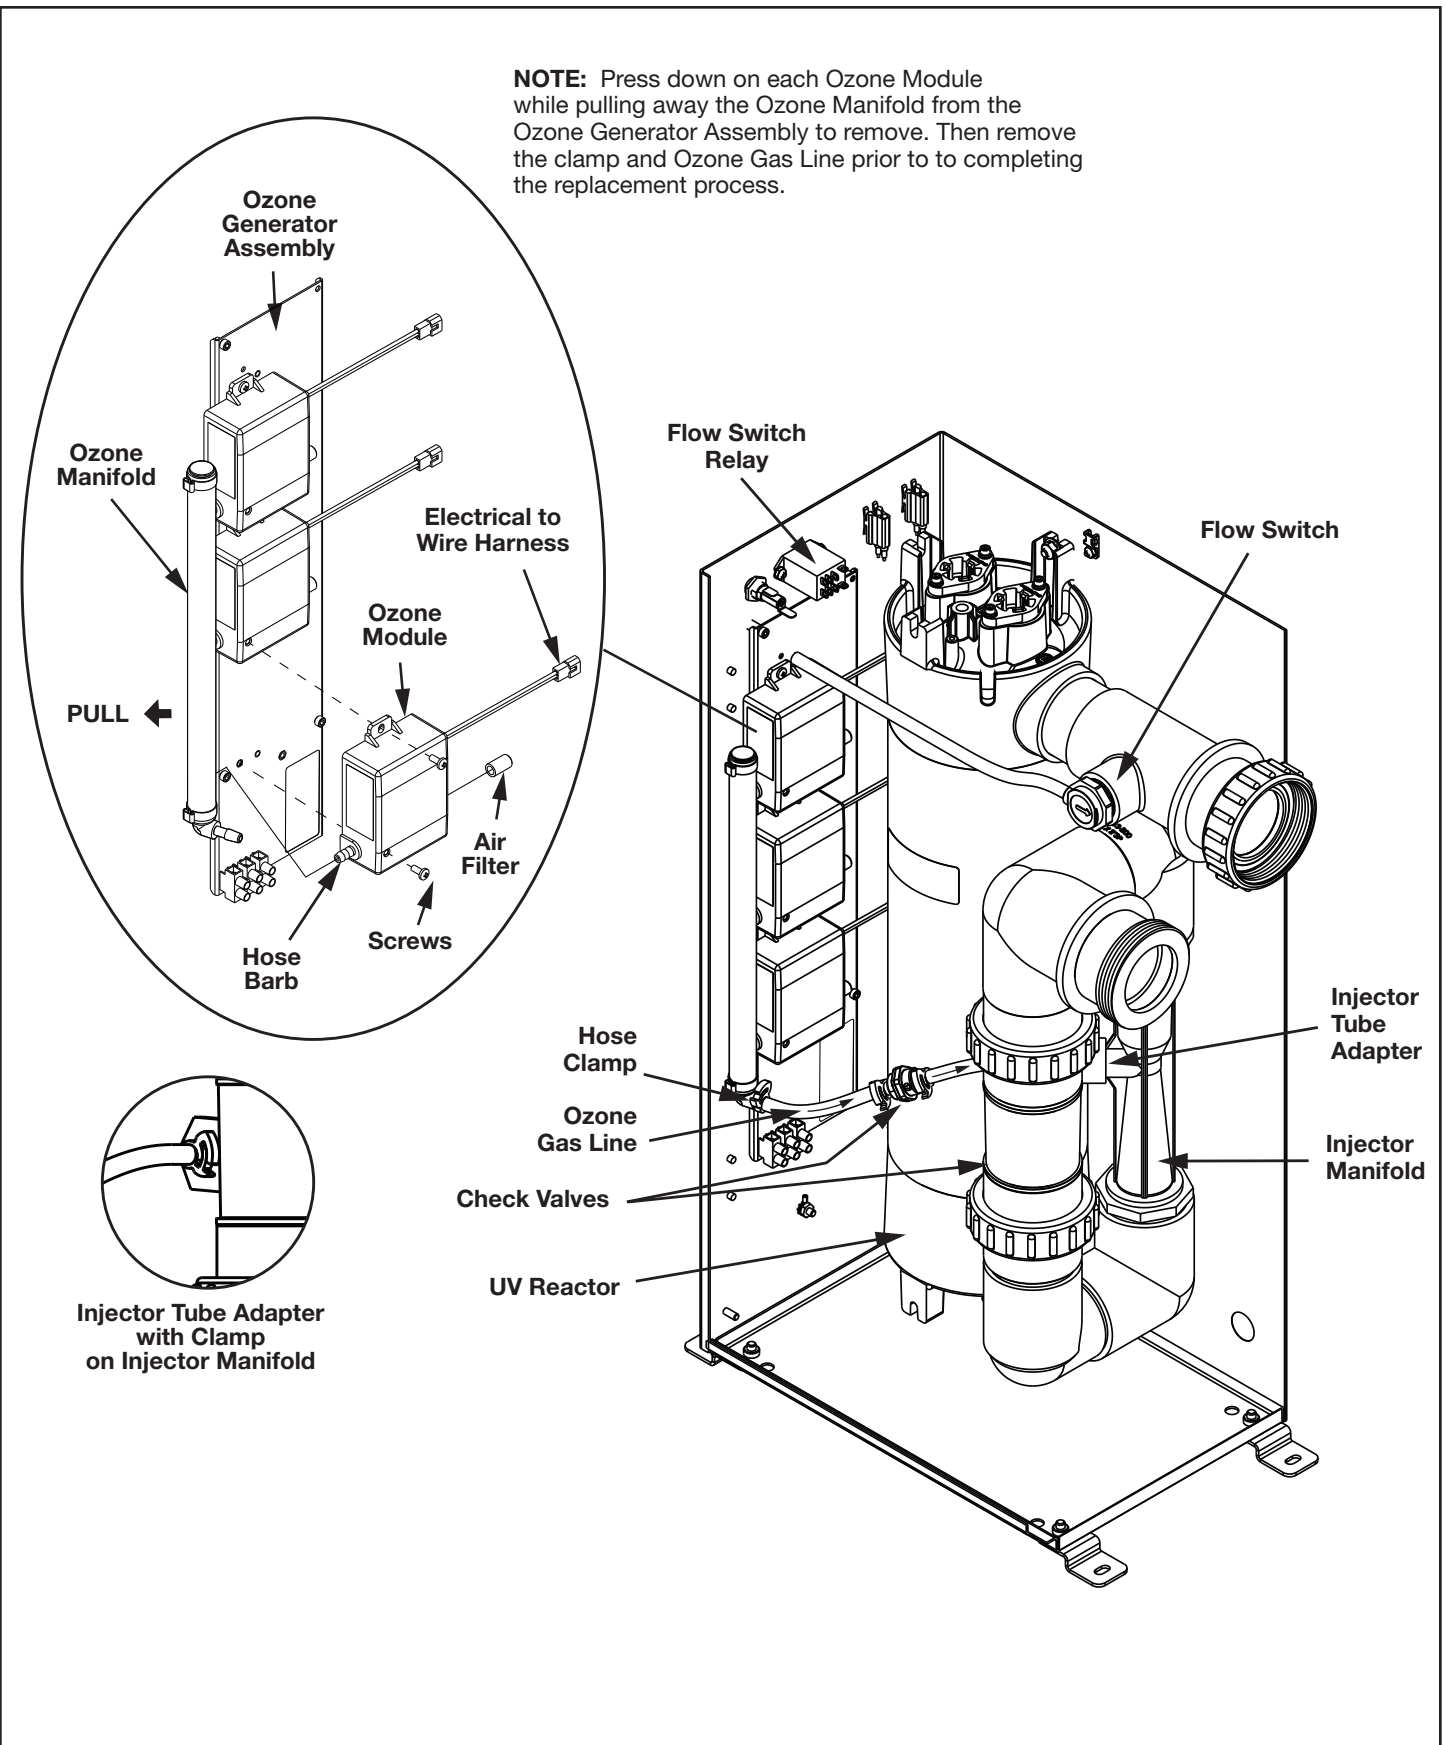

Figure 4. JAOPX500 Electro-Mechanical Assembly View
The air entering the ozone modules passes through individual filters on each module inlet. The filters are held in place by the rubber filter cap. (Refer to Figure 4 for a more detailed view.)
4. Hold each module in one hand while pulling the ozone manifold assembly away from the hose barb until it is fully disconnected from the ozone generator assembly and set aside. See Figure 4.
3. Locate the ozone modules on the left wall of the enclosure. See Figure 4.
6. Remove the two (2) screws holding the ozone module to the mounting bracket using a Phillips-head screwdriver.
11. Push the new ozone module onto the ozone outlet manifold and secure with the two (2) screws previously removed.
The injector tube adapter connects the ozone tubing to the injector manifold. See smaller inset in Figure 4.
Gas from the ozone module is drawn through the ozone gas line by the injector and into the water. The ozone check valve in this line prevents water from migrating back to the ozone module when the system is not running. See Figure 4.
6. Orient ozone gas line as shown in Figure 4 (note flow direction callout), ensuring the gas flows towards the injector manifold. Re-connect onto the air barbs of the injector tube adapter on the right side and the ozone output barb on the ozone outlet manifold on the left side of the Jandy AOP system. Use pliers to secure all clamps previously removed or loosened.